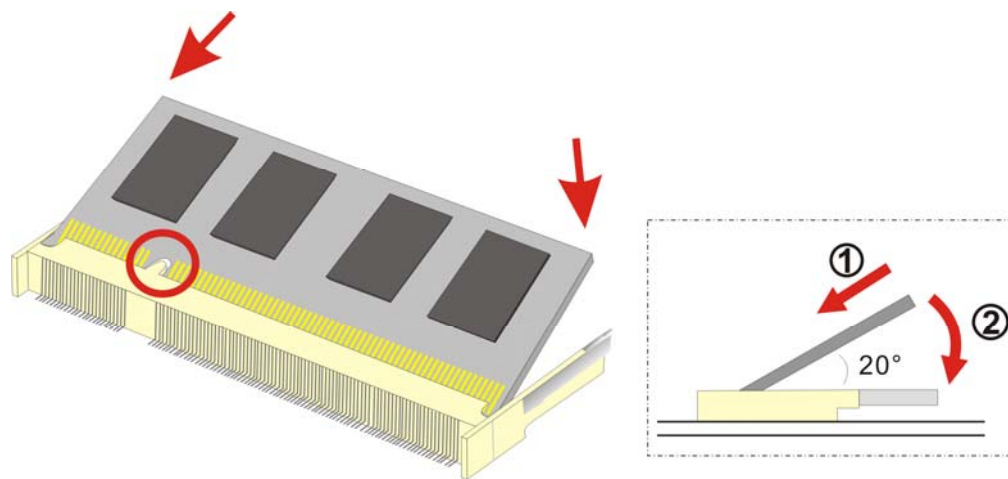

Figure 5-6: SO-DIMM Installation
To install a SO-DIMM into a SO-DIMM socket, please follow the steps below and refer **Figure 5-6**.
Step 15: Insert the SO-DIMM. Push the SO-DIMM chip into the socket at an angle. (See **Figure 5-6**)
Step 16: Open the SO-DIMM socket arms. Gently pull the arms of the SO-DIMM socket out and push the rear of the SO-DIMM down. (See **Figure 5-6**)